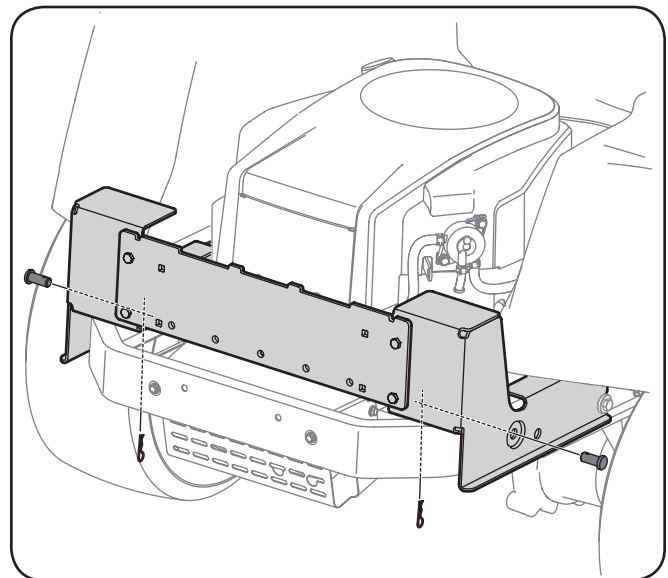

Figure 5-3
2. Secure the mounting bracket assembly to the tractor using two 911-0310 clevis pins and 914-04023 cotter pins from hardware pack 689-00320. See Figure 5-3.